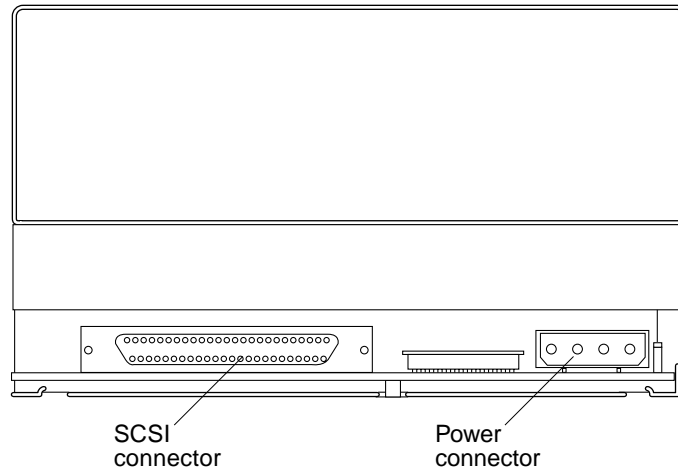

Figure 1-1 DLT7000 Tape Drive Cable Connectors
- a. Connect the SCSI and power cables to the connectors on the back of the tape drive (Figure 1-1).**